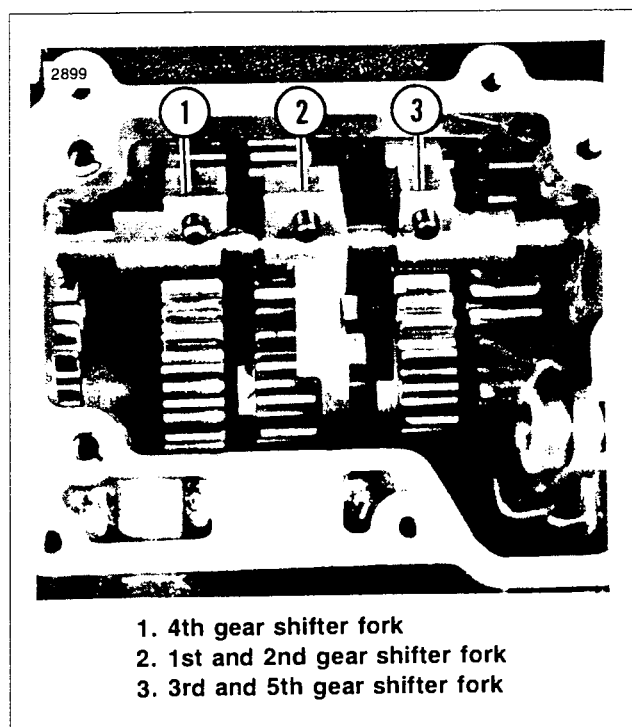

Figure 5. Transmission Forks Position
2. See Figure 5. Insert shifter fork (1) into the slot of the mainshaft 1st gear Insert shifter fork (2) into the slot of the countershaft 3rd gear and insert shifter fork (3) into the slot of the mainshaft 2nd gear.